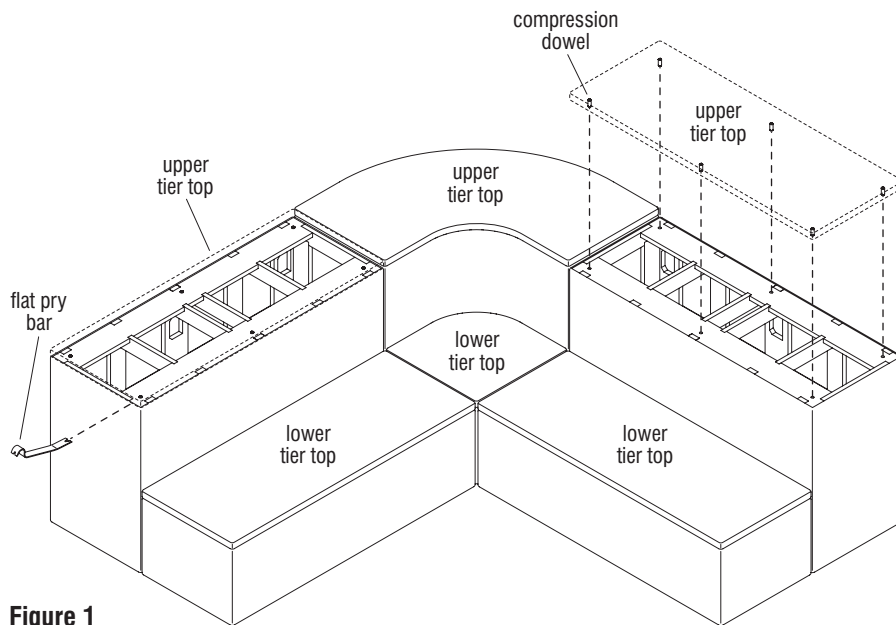

Figure 1
1. Using a clean flat pry bar, position it at the side of a corner, at either end of the tier top being removed. Take note of where compression dowels are by referencing the illustration in Figure 1, to pry up near them in step 2 below.
2. Do not pry up all at once at any one compression dowel location. Pry a little at a time at each location, moving around the unit as follows: At one corner compression dowel location first, carefully insert the flat end of a pry bar between the upholstery of the upper tier top and the top of the base frame. Gently wiggle the pry bar up-and-down while pushing, and begin lifting the tier top up at that dowel. Move next to another closest corner and gently lift it partly in the same manner. Lift and look to locate a compression dowel near the center of the unit and pry to lift gently, only part way up. Work all around the tier top, lifting at dowels a little at a time evenly, until the tier top can be lifted off, releasing all dowels fully without damage (Figure 1 & Details A & B).